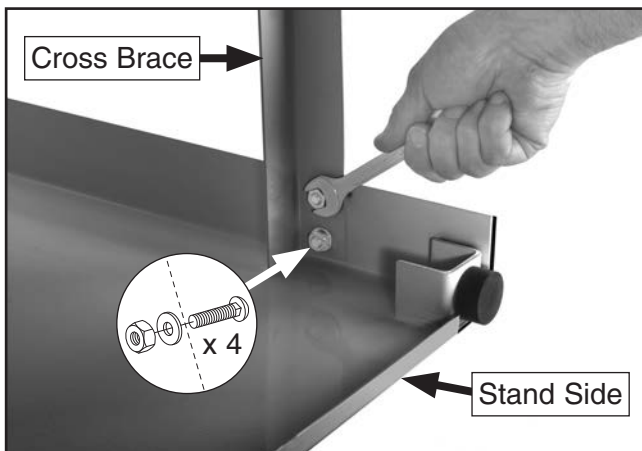

Figure 9. Attaching cross braces to stand side.
1. Lay one stand side on ground and attach (2) cross braces with (4) M8-1.25 x 12 carriage bolts, $\frac{3}{8}$ " flat washers, and M8-1.25 hex nuts, as shown in **Figure 9**. **DO NOT** fully tighten nuts and bolts at this time.